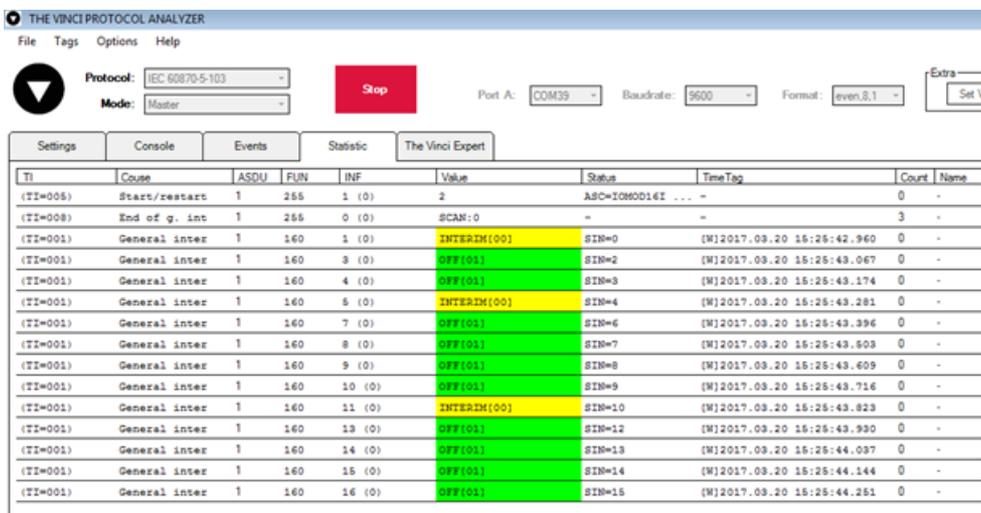

Fig.3.2. Statistic tab in “The Vinci” application for IEC-60870-5-103
Fig. 3.2 shows 1st + 2nd, 5th + 6th and 11th + 12th Inputs grouped (notice order of info numbers). These pairs is shown INTERM (00) because both inputs of pair are off (giving binary representation of 00b).